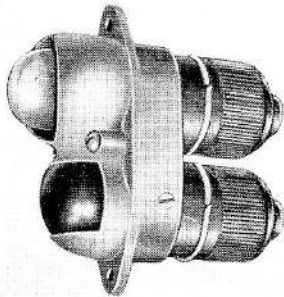

Fig. 1. Tail lamp, Type C
1. The tail lamp, Type C, an external view of which is shown in Fig. 1, provides two lighting services for night flying aircraft, namely: formation keeping and navigation. The formation light is blue and is only visible to other aircraft at approximately the same